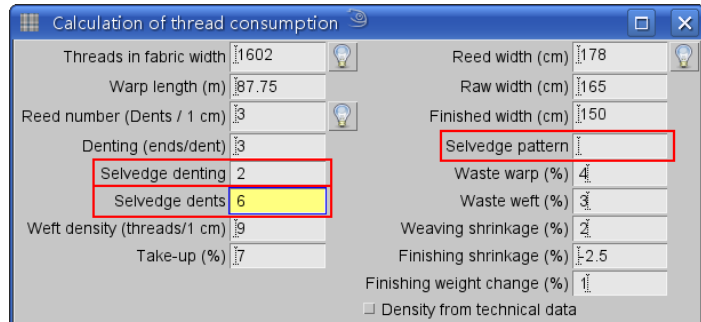

Figure 311: Selvedge from ground
- If you want, that selvages are taken from the fabric ground, then enter the number of **Selvedge dents** and **Denting**, and leave the **Selvedge pattern** empty. Figure 311 shows data of fabric, which has 12 threads (Selvedge denting by number of selvedge dents) from ground in each selvedge.